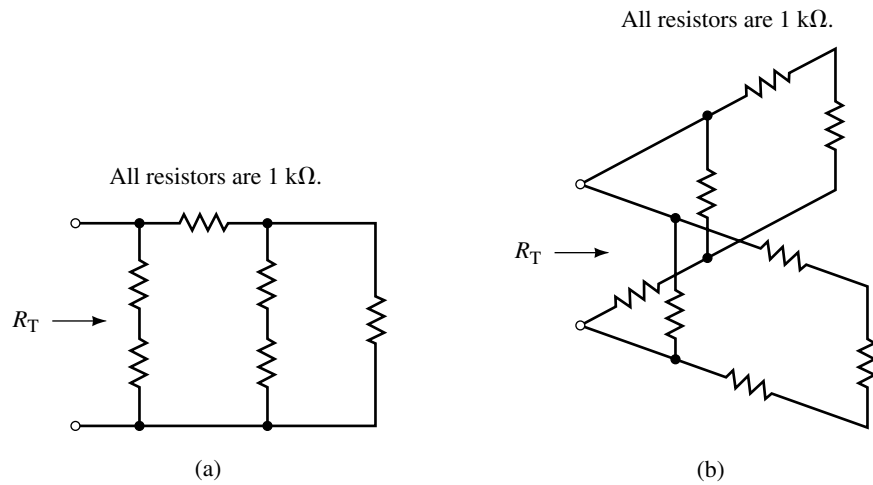

FIGURE 7-51
8. Determine the total resistance of each network in Figure 7-51.